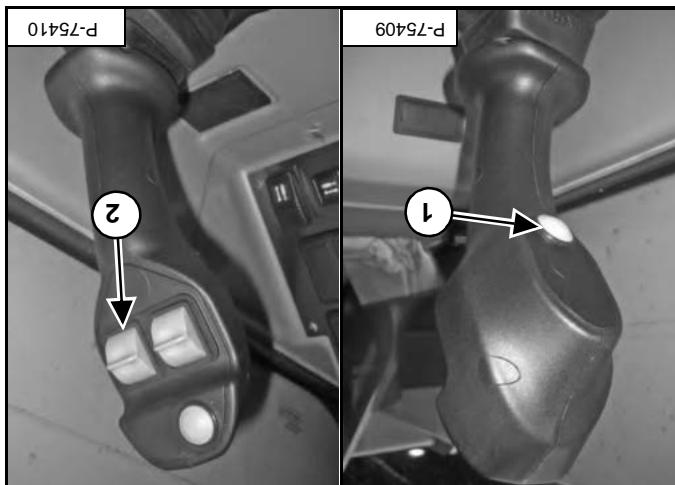

Figure OI-69
Press the button (item 1) to start forward trencher chain rotation. Press the button (item 1) to stop trencher chain rotation. [Figure OI-69]. Release both the switch and the button (item 1) switch (item 2) up, then press the switch and hold the continuous reverse trencher chain rotation. To reverse the trencher chain rotation, push and hold the switch (item 2) up, then press the switch and hold the button (item 1) a second time to stop trencher chain rotation. [Figure OI-69]. Engage auxiliary hydraulics both the switch and the button (item 1) a second time to stop trencher chain rotation.